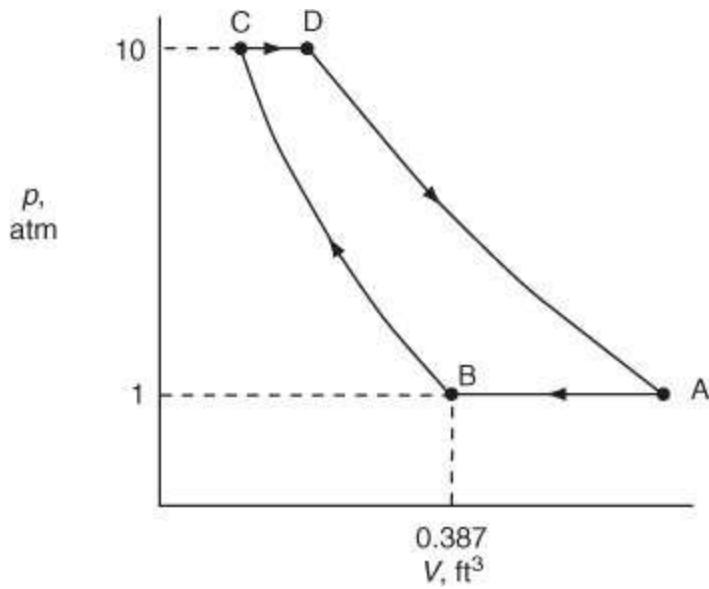

Figure P9.3.45
****9.3.45. A quantity of an ideal gas goes through the ideal cycle shown in Figure P9.3.45. Calculate: